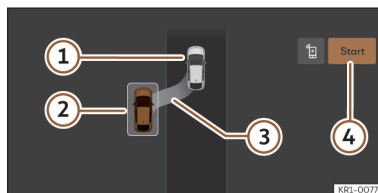
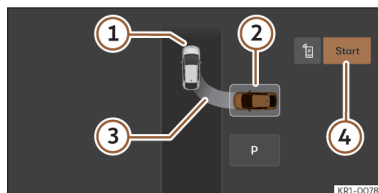

Fig. 141 On the infotainment system display: parallel parking position.
Fig. 142 On the infotainment system display: parking bay parking position.
>>> **Fig. 141**, >>> **Fig. 142**
- ① Your vehicle
- ② Parking space detected
- ③ Indication showing the proposed parking manoeuvre
- ④ Start parking manoeuvre
- Look at the display on the infotainment system's screen to see if the space has been detected as "appropriate" and if the correct position for parking has been reached >>> **Fig. 141**, >>> **Fig. 142**. Stop the vehicle and follow the instructions shown on the infotainment screen.
- Stop the vehicle, press the brake and, after a short pause, press the **Start** ④ button in the infotainment system.